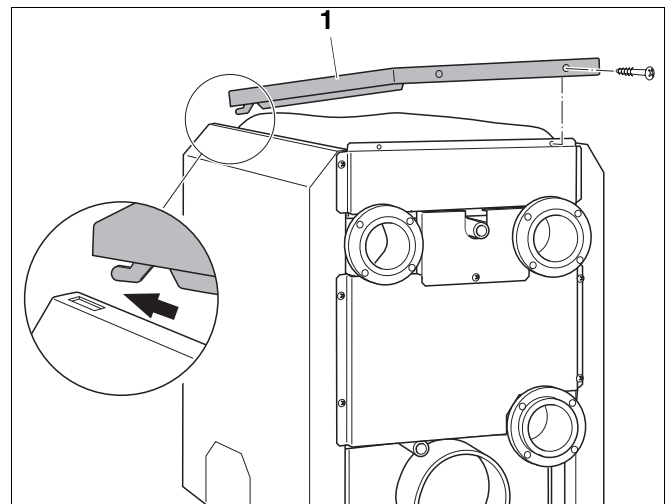

Fig. 14 Fitting hood
- Place the hood (Fig. 14, **Item 1**) with two hooks on top of the folded edges of the side panels, and push forward until the hooks are hooked into the slots.